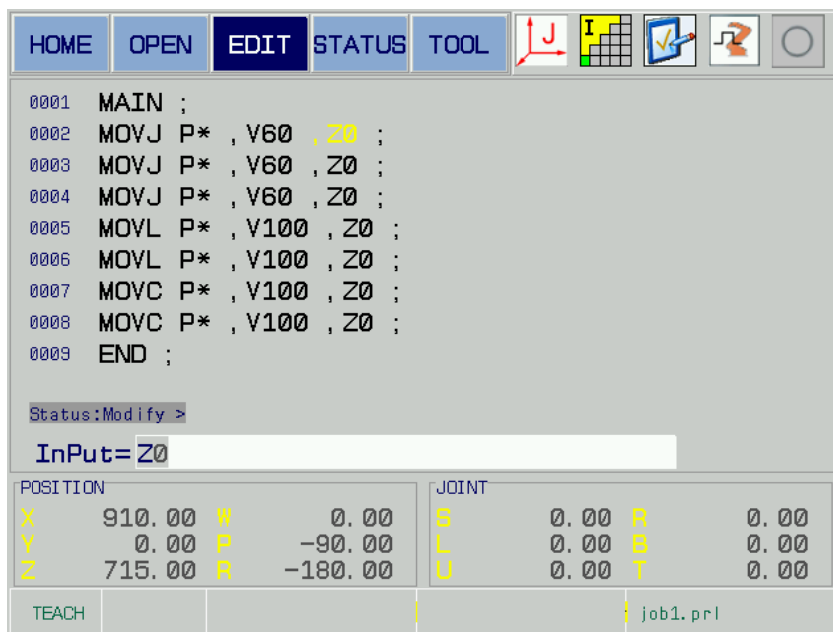

Fig. 5-49
4. Select the speed parameter Z0 (the 1st line) of the MOVJ by the four direction buttons; refer to Fig. 5-49.